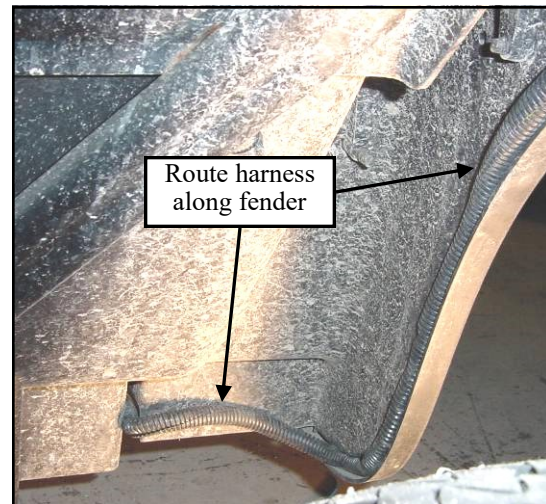

Figure 3.7 (view from above driver's side front tire)
3.7 Per figs. 3.7 and 3.7.1, route harness along fender and under floor board. Secure with p-clamps and #10 self-drilling/tapping screws. Note: make sure harness is secured and not the lowest point to prevent wire pinching/snagging on obstacles.